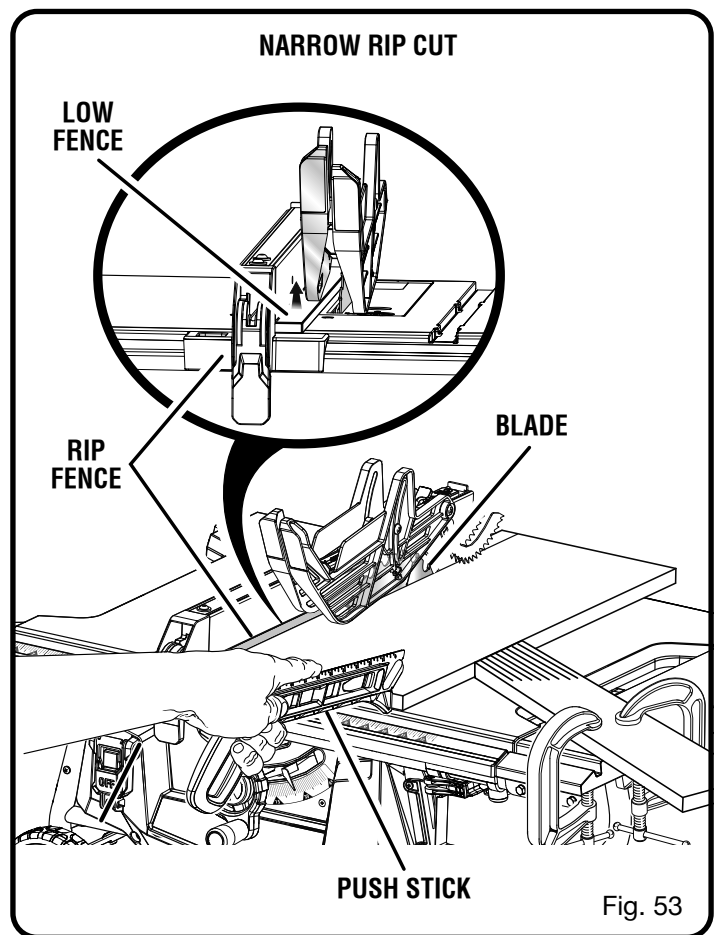

Fig. 53
**NOTE:** The cutting operation described above and illustrated in figure 53 will result in the saved piece being between the rip fence and the left side of the blade. Alternatively, you could place the rip fence and the wide portion of the workpiece on the left side of the blade, which would result in the saved piece being on the right.